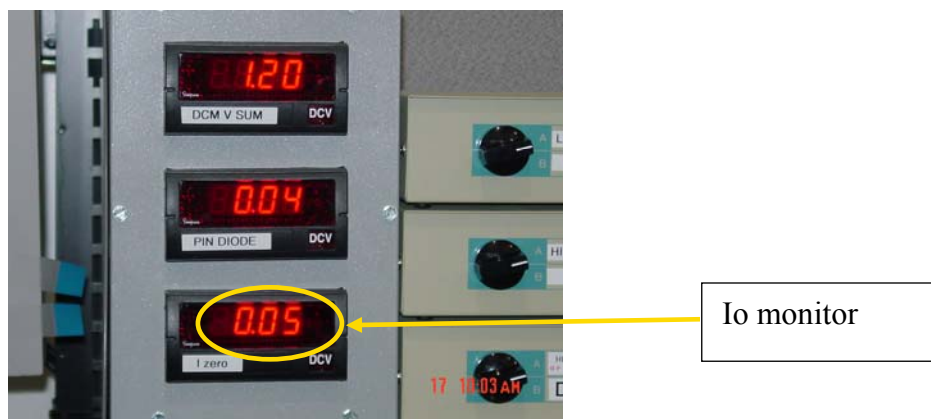

Figure 14. Electronics panel on the shelf above the beamline control computer
4. Close the Endstation (D on ID-D and B on ID-B lines) shutter from the “hutch” tab of JBlu-Ice. Record the reading on Io diode (Fig. 14). This is Offset